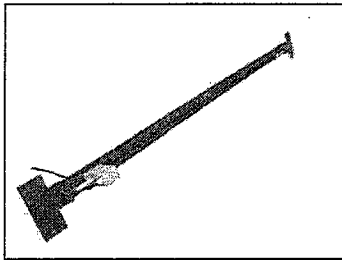

Fig. 14
8. Mount the ceiling limiting bar and limit switch on the cross beam. (Fig. 14)